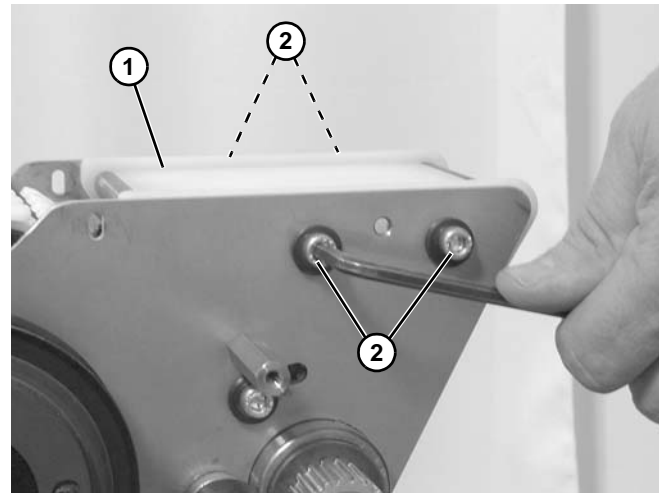

Figure 160
5. Install wear bar assembly (**Figure 160, item 1**) with four socket head screws (**Figure 160, item 2**).